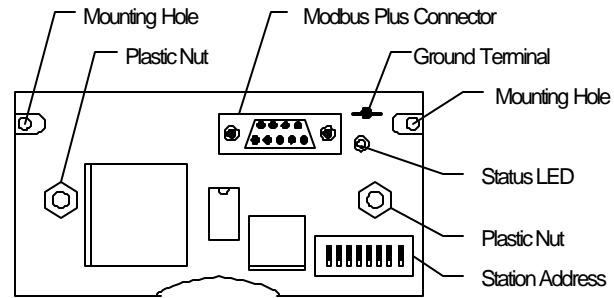

Figure 1: Top view
(Note) When you insert the option unit to the VFD, please push down the plastic nuts on the top-board. (Please refer to Figure 1)
2. When setting the Modbus Plus address on the option board, use the following table. Refer to Figure 1 for the address switch location.